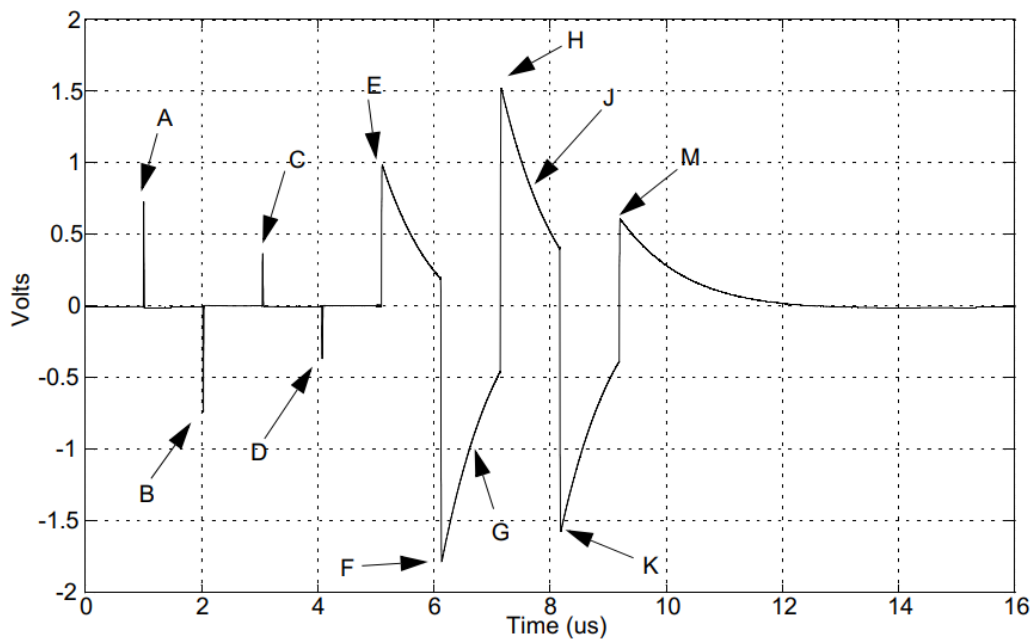

Figure 6-1 Example of transmitter test mode 1 waveform (1 cycle)
When the DUT is in test mode 1, with or without disturbing signals, Peak Output Voltage is used to verify whether the signal level from the DUT output port is within the specified range in IEEE802.3-2018, Subclause 40.6.1.2.1. These tests measure the output voltage of points A, B, C, and D of the Test Mode 1 signal at the MDI. The waveform for test mode 1 is shown in Figure 6-1, and this test waveform is also used for Droop and Templates tests.
When the DUT is in test mode 1, with or without disturbing signals, droop tests are used to verify whether the output droop of differential signal from the DUT MDI port is within the specified range in IEEE802.3-2018, Subclause 40.6.1.2.2. Voltage is measured at points F and G, and at points H and J of the Test Mode 1 signal, as indicated in Figure 6-1. The amplitude of the peak voltage at points G and J shall be greater than 73.1% of the amplitude of the peak voltage at points F and H respectively. Point G is defined as the point exactly 500ns after point F. Point J is defined as the point exactly 500ns after Point H. This test does not use a high-pass filter.
1. Measure the minimum/ maximum peak voltage at point F and H as shown in Figure 6-1 respectively and define this as  $V_{peak\_F}$  or  $V_{peak\_H}$  after capturing the waveform.
2. Measure the voltage at exactly 500ns after point F or point H as shown in Figure 6-1 respectively and define this as  $V_G$  or  $V_J$ .